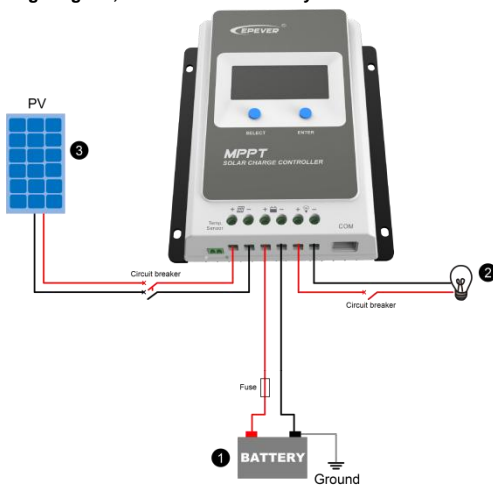

Figure 2-2 Schematic Wiring Diagram
**Step 2:** Connect the system in the order of battery  -- load  --PV array  following Figure 2-2, " Schematic Wiring Diagram, " and disconnect the system in the reverse order.